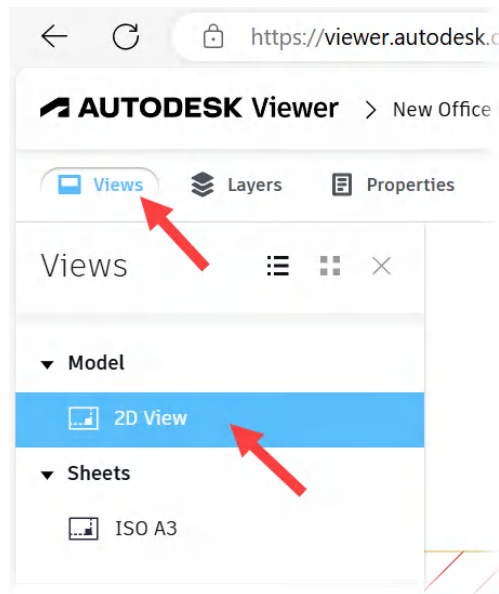

Figure 13.23: The Views menu and Model/2D View
1. While staying in Autodesk Viewer and ensuring you are signed in through your account, make sure you select the **Views** menu at the top left of the screen and check that you are in **Model | 2D View**, as shown in *Figure 13.23*.